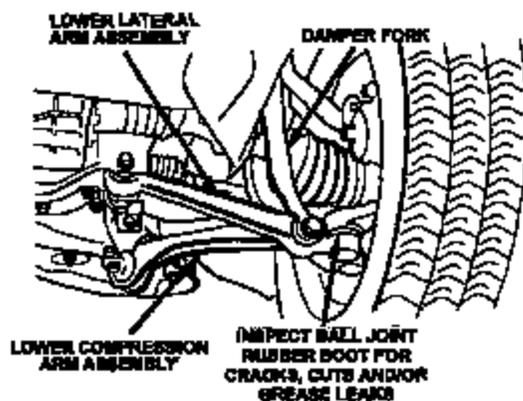

Figure 1
2. Inspect the LEFT ball joint rubber boot on the lower lateral arm. Using a light, look for cracks, cuts and/or other damage by pushing the boot with your fingers (Figure 1). The boot is damaged if there is evidence of grease leakage. If necessary, use a clean cloth or cotton swab as an aid to determine if grease is present.
3. Inspect the RIGHT ball joint rubber boot on the lower lateral arm. Using a light, look for cracks, cuts and/or other damage by pushing the boot with your fingers (Figure 1). The boot is damaged if there is evidence of grease leakage. If necessary, use a clean cloth or cotton swab as an aid to determine if grease is present.